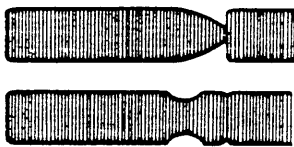
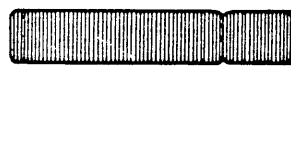
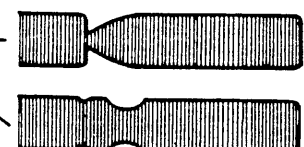

Fig. 4-21
Fig. 4-22
Fig.4-23
5. If the FM waveform observing by oscilloscope as same as shown in Fig. 4-21, adjust screw (F) until waveform becomes as shown in Fig. 4-22.
6. If the FM waveform observing by oscilloscope is as same as shown in Fig.4-23, adjust screw (E) until wave form becomes as shown in Fig. 4-22.